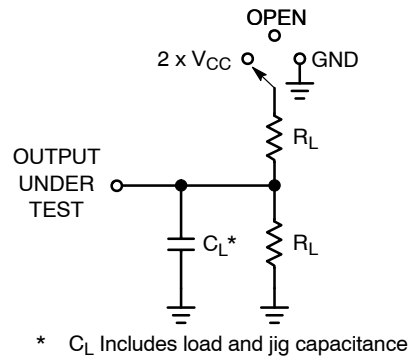

Figure 5. AC Test Circuit
5. Propagation delays defined per Figure 5.